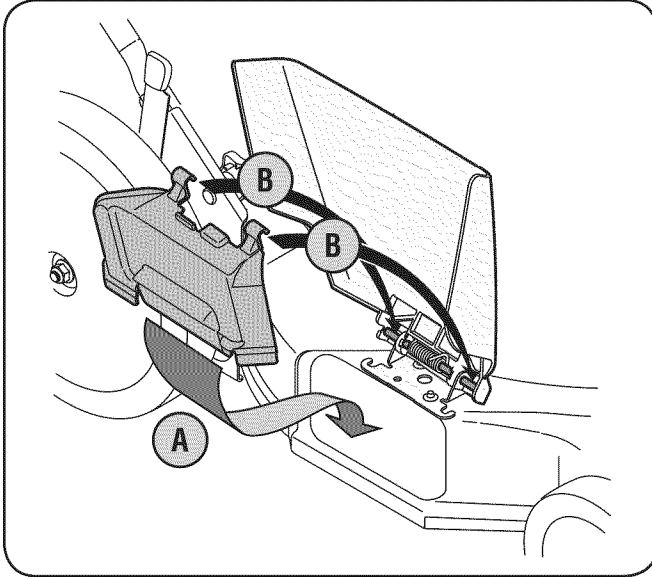

Figure 3-7
- a. Lift up and hold the side-discharge chute deflector and insert the bottom lip of the mulching baffle inside the chute opening See Fig. 3-7.